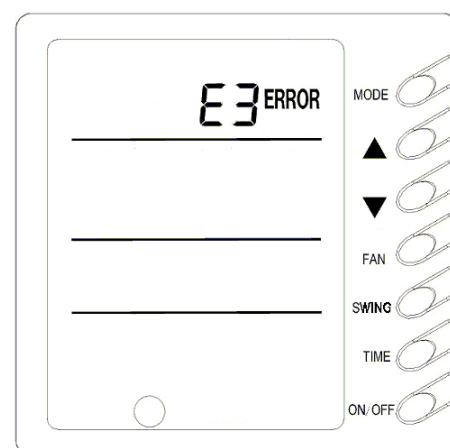

Fig.17
10) Malfunction Display (Fig.17)